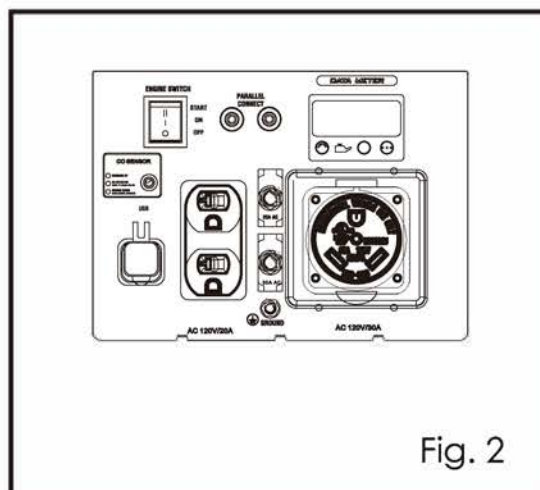

Fig. 2
- Remove the air filter element (Fig. 2). Inspect for dirt, debris or damage. Clean or replace as required.
2. Flip the engine control switch (Fig. 2) to ON.
(Electric start, if equipped) Push the engine control switch (Fig. 2) in the START position until the engine starts. If the engine does not start after five seconds, release the button and allow the starter to cool for thirty seconds before trying once again to start the engine.
3. Flip the engine control switch to (Fig. 2) to OFF.
- Place an oil pan below the oil filler cap (Fig. 2). Remove the cap then tilt the machine allowing the oil to flow into the pan. Using paper towel or a rag, wipe up any spilled oil. Dispose of the used oil at an oil recycling facility.
- Remove the screw in the air filter cover (Fig. 2). The cover and filter element can now be removed.